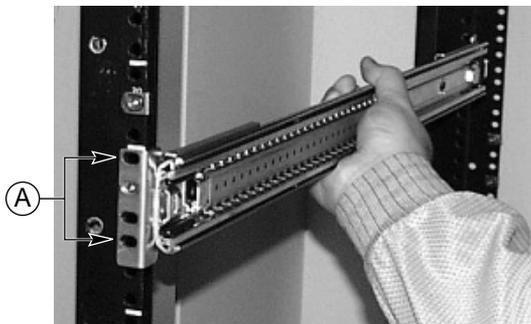

Figure 8 Slide Rail Assembly Aligned with Holes in Rack
3. Align the holes on one of the front brackets with the holes you selected on the rack. Figure 8 shows the slide rail assembly aligned with the holes in the rack. The holes are noted by "A."
4. As shown in Figure 8, insert two screws in the front bracket and rack holes. Tighten the screws to secure the front of the assembly to the rack.